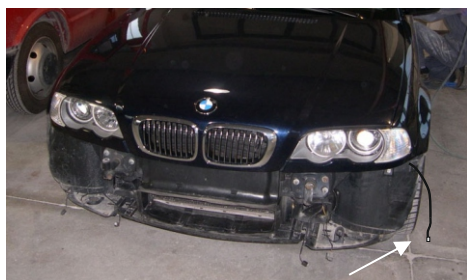

Fig. 2
- b) Through the individuated passages route the RF cable from the dashboard leaving the faston outside. (Fig. 2)